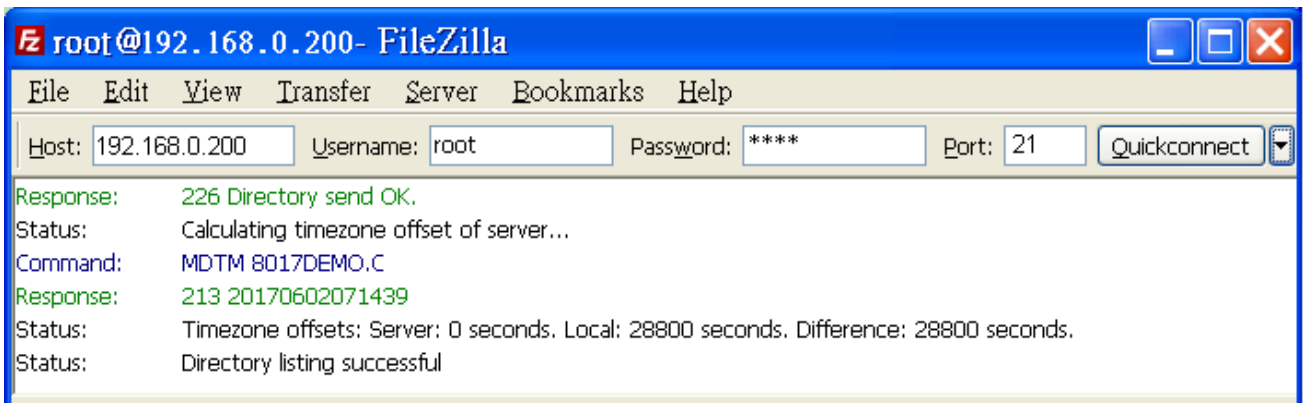

Fig. 3-28
- (1) Open the FTP Software and add an FTP Host to the LP-2241 (for example, FileZilla - The free FTP solution for both client and server, <https://filezilla-project.org/>).
- (2) Type the User\_Name (default value is “root”) and Password (default value is “icpdas”). Then click the “Quickconnect Connect” button to establish a connection to the ftp server on the LP-2241 (refer to Fig. 3-28).